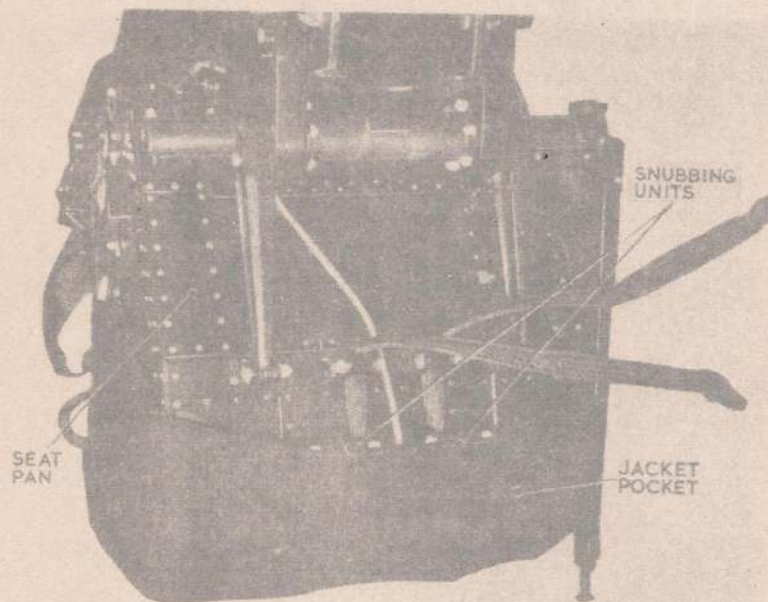

Fig. 1. Fitting the jacket (1)
(5) Slip the jacket pocket over the front of the seat pan, ensuring that the snubbing units are covered (*fig. 1*).